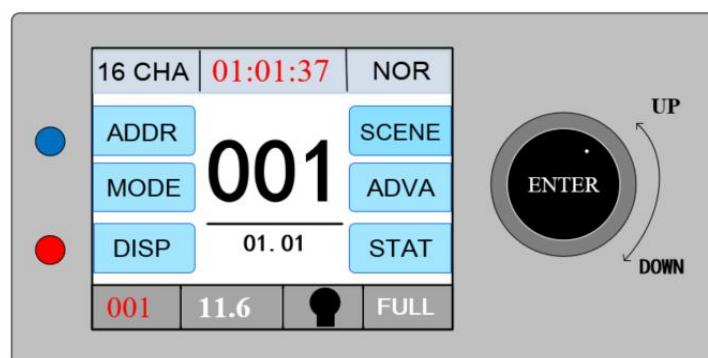

Figure 3-3 Diagram of the knob display panel
- For the knob shown in Figure 3-3, the cursor can be controlled up or down by rotating in different directions, and pressing the knob can confirm it. If you want to go back, turn the knob to move the cursor to the back button on the display, press the knob to confirm and return.